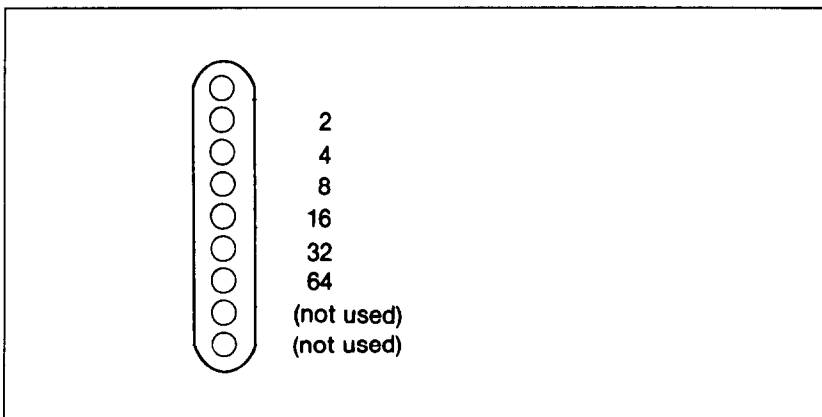

Figure 10-1. Starting with the least significant bit at the top, each pin of the print head is assigned a value which is a power of two.
Now that we’ve told the printer to enter the dot graphics mode, we better figure out how to send the graphics data. Just as you do with download characters, with dot graphics you have control of the firing of every single pin on your printer’s print head. In Figure 10-1, you can see that we’ve labeled each pin on the print head with a number, as well did with download characters. (You should note one important difference: this time the *top* pin has the lowest value; for download character definitions it is the bottom pin.) And specifying to figure is done in the same way with one exception: to fire the second pin from the top, for instance, send a CHR\$(130) because the second pin value is 2 and add 128 to assign the dot graphics data. Firing se-